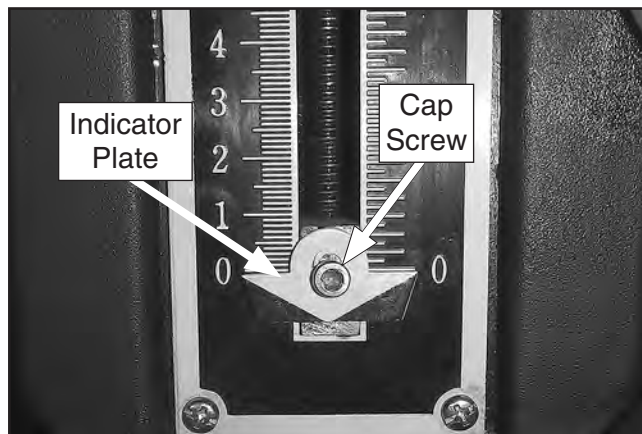

Figure 45. Depth stop set at "0" for calibration.
1. Rotate depth stop adjustment knob to lower depth stop (see **Figure 45**) until indicator plate reaches bottom of its travel.
2. Loosen cap screw shown in **Figure 45**, and position indicator plate so upper edge of plate aligns with "0" on the scale, then re-tighten cap screw to secure setting.